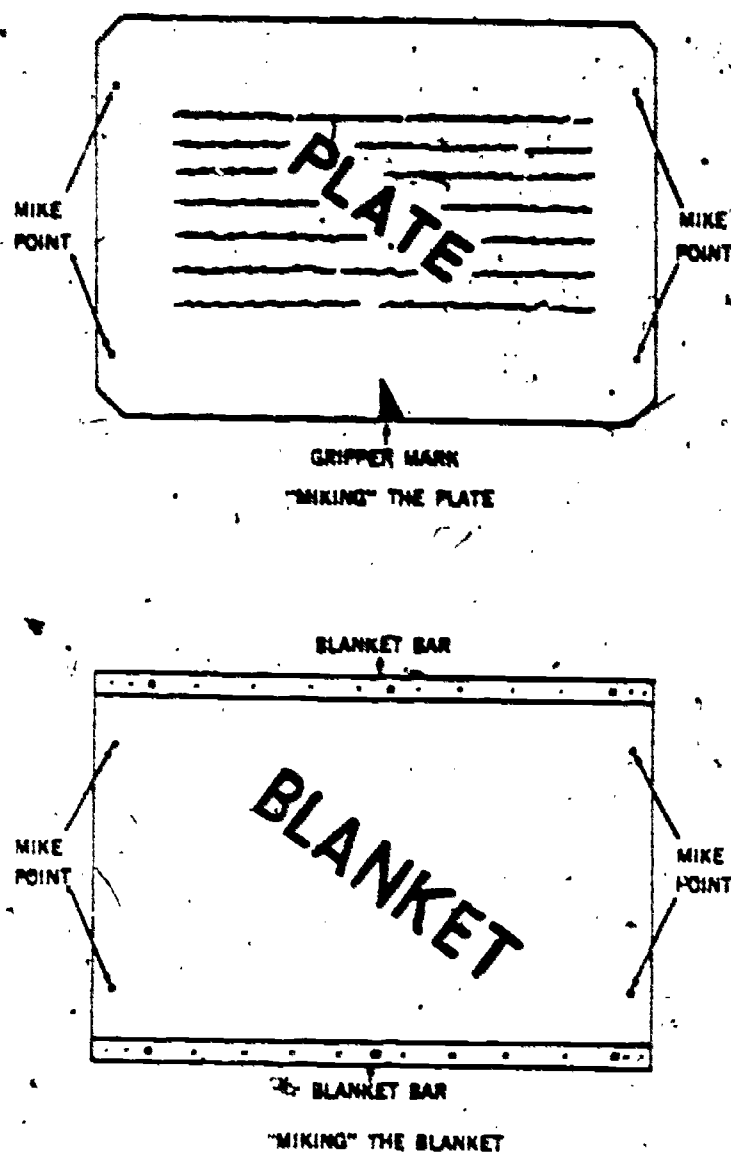

Figure 8-23. Recommended spots for measuring the thickness of plate and blanket with a micrometer (miking).
Bearers	Steel bands encircling the outside edge of each cylinder and used to maintain correct separation between cylinder surfaces (fig. 8-23).
(3) *Measuring thickness of blanket and plate.* Blanket and plate thicknesses vary; therefore, they must be measured with a micrometer before being mounted on the press. In order to assure accuracy and prevent errors owing to low spots, the blanket and plate are "miked" in several places and an average taken. The micrometer should not be placed at the gripper or tail edges of the blanket or plate, as the clamps and bags make the surfaces uneven, and cause false readings. Also, the micrometer should not be pushed so far onto the material being measured that the material contacts the inside edge of the micrometer frame. This bends the material and causes a false reading (fig. 8-23).